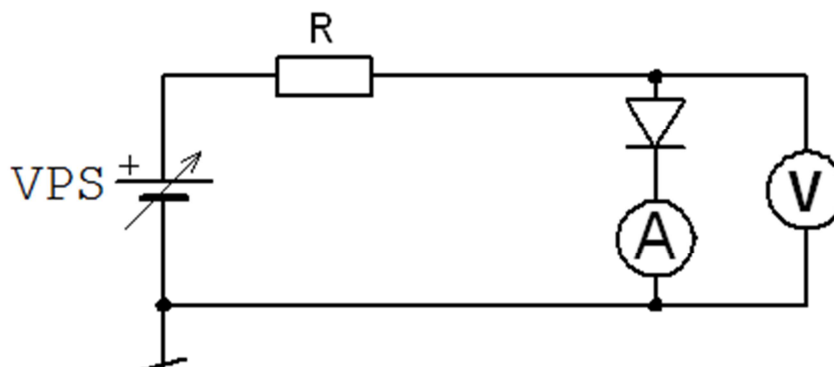

Fig. 4.1. Measurement of DC current-voltage characteristics of a diode.
4.1. For the chosen by the teacher rectifier diode, investigate point by point a DC current-voltage characteristic with the use of VPS and DMM (see Fig. 4.1).
- 4.4. Basing on Fig. 4.1, with the use of VPS and DMM, measure the voltage drop on the LEDs chosen by the teacher. Determine, which currents flow by the diode during weak shining, strong shining and very strong shining. ATTENTION: adjust current restriction to 25mA!